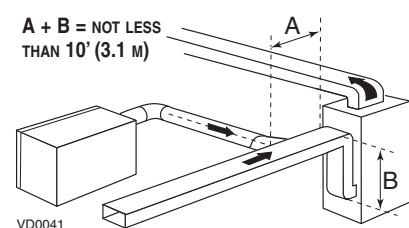

Figure 11
- Connect this opening to the fresh air distribution port of the HRV/ERV (see figure 11).